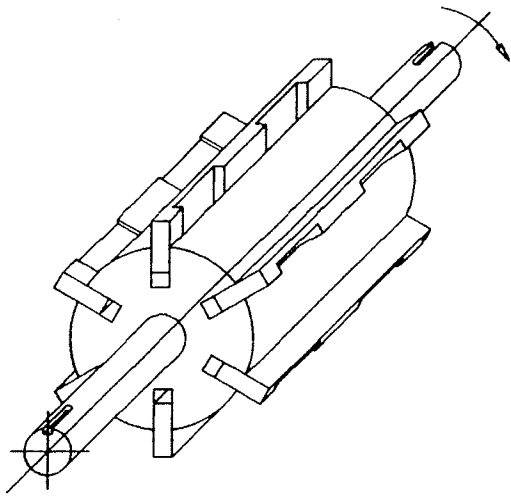

Figure 6
- NOTE: When Removing pump drive end assembly cradle vanes in rotor. Note orientation of vanes in relation to pump rotation (Refer Fig. 6) then remove vanes and pushrods from rotor.
VANES MUST LEAD THE DIRECTION OF ROTATION AND VANE PLATES MUST FACE THE PUSHRODS. (Refer Fig. 6)